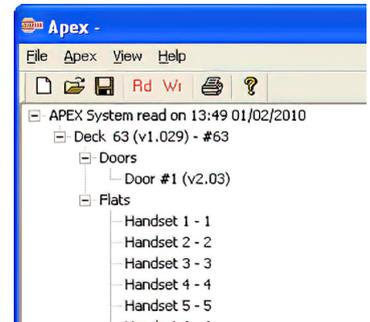

Fig 10
1. Once the system has been read, expand the tree in the main window to show the flat numbers to be configured [Fig. 10].
1. Once the system has been read, expand the tree in the main window to show the required deck (main board where door(s) is connected) [Fig. 10].